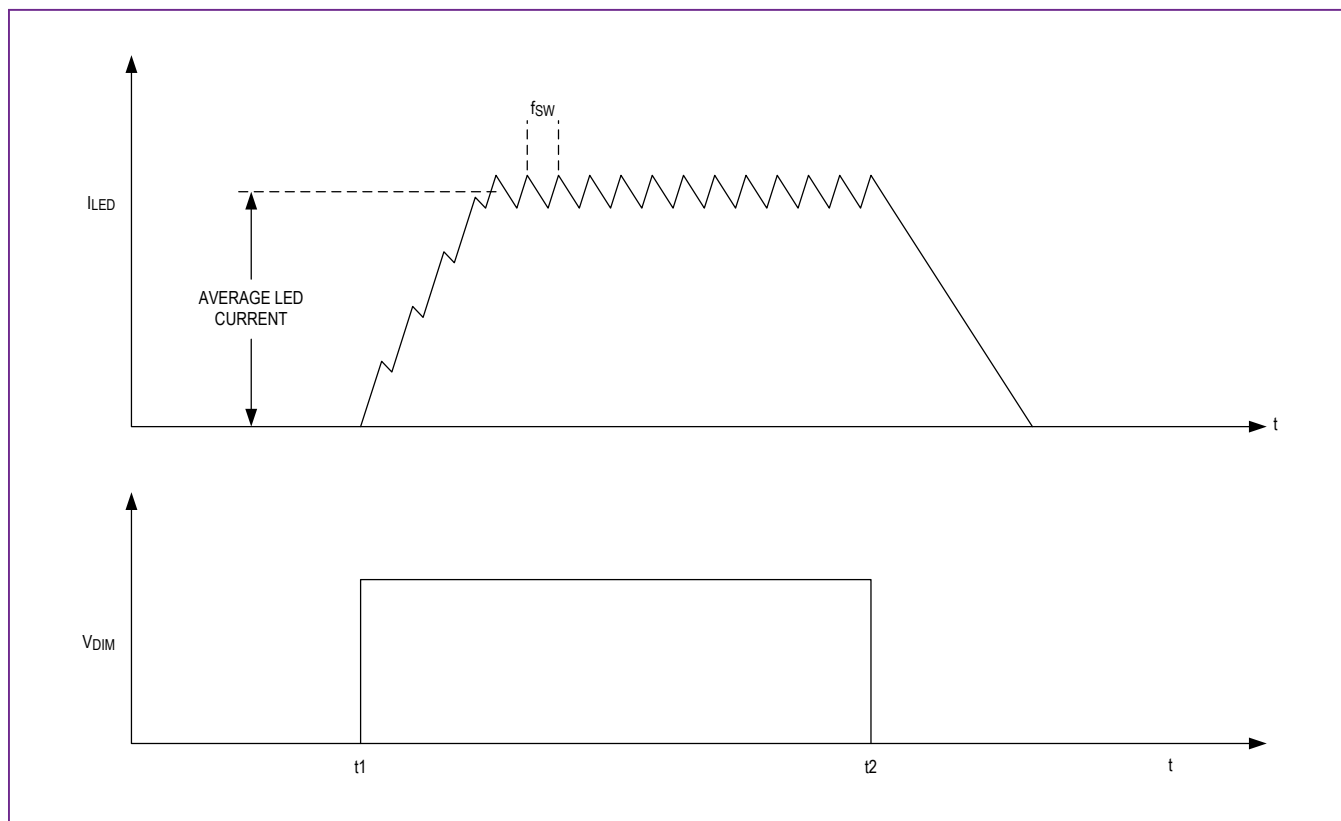

Figure 3. Operation During PWM Dimming When PWM Signal is Applied at PWM Pin
The DIM pin functions as the PWM dimming input of the LEDs. The DIM pin can be driven with a PWM signal that controls the dimming operation of the device. When the DIM signal is high, the switching of the synchronous MOSFETs in the buck LED driver is enabled, but when DIM goes low, both the high- and low-side MOSFETs are turned off. The LED current waveform is shown in Figure 3. The device goes into shutdown mode if the DIM input is below the ON threshold minus the hysteresis for 210ms. In shutdown mode, the input current is less than 5μA (typ).
- 1) Large switched currents flow in the IN and AGND/PGND pins and the input capacitor ( $C_{IN}$ ) of Figure 3. The loop formed by the input capacitor should be as small as possible by placing this capacitor as close as possible to the IN and AGND/PGND pins. The input capacitor, device, output inductor, and output capacitor should be placed on the same side of the PCB, with the connections made on the same layer.